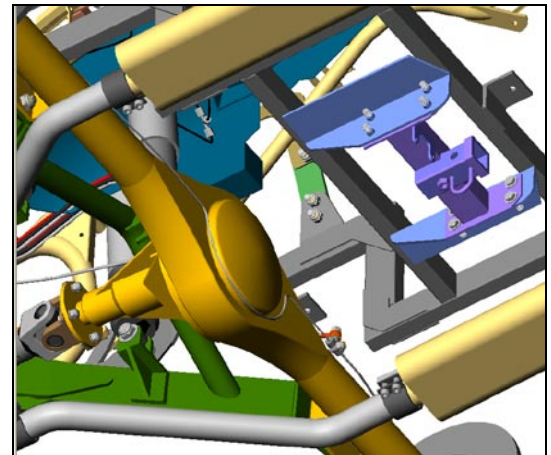

Figure 48
- d. Ensure proper alignment of exhaust tubing and mufflers. Figure 48